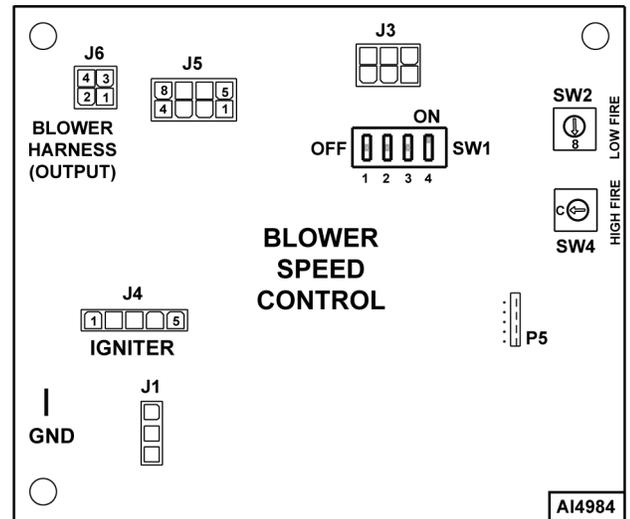

Fig. 10
**Blower Speed Control - Switch Settings 2nd Generation Motor (High Fire and Low Fire Settings Shown in Fig. 10)**